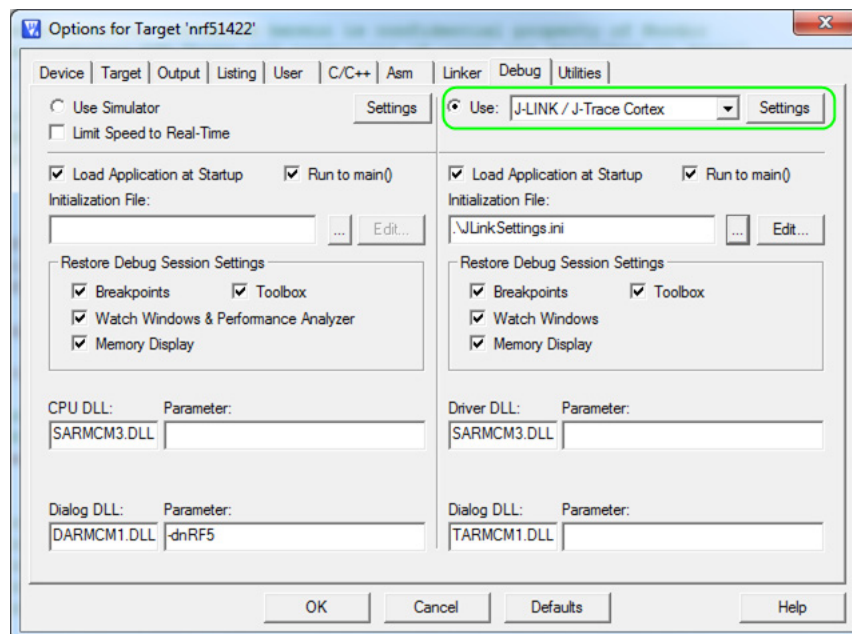

Figure 39 Selecting J-Link debugger in Keil
3. Under the **Debug** tab in the Use list, select **J-LINK / J-Trace Cortex** option as shown in **Figure 39**.
4. Click **Settings** as shown in **Figure 39**. Both the SEGGER Control Panel and the Keil Target Driver Setup will open.